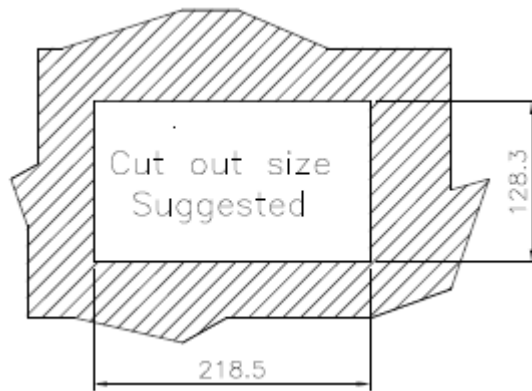
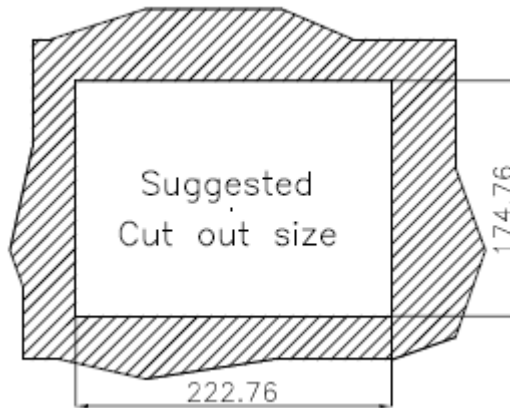
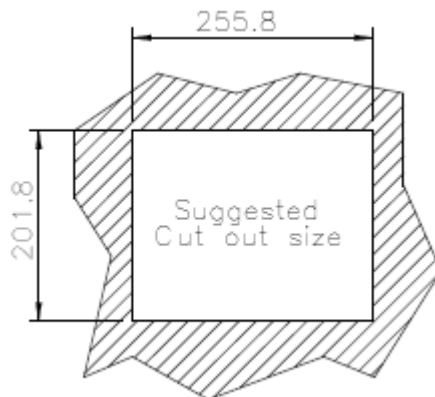
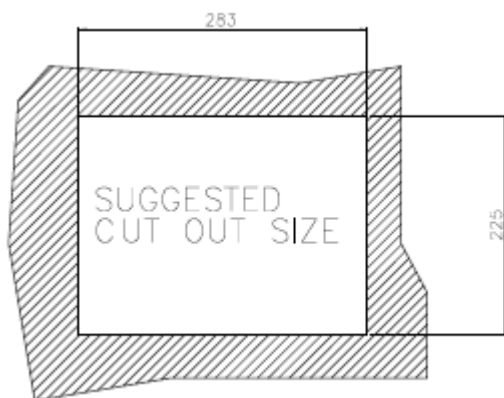

Figure 3-19: AFL-W07A-N26 Panel Opening
Figure 3-20: AFL-08A-N26 Panel Opening
Figure 3-21: AFL-10A-N26 Panel Opening
Figure 3-22: AFL-12A-N26 Panel Opening
- Step 2:** Cut out a section from the panel that corresponds to the rear panel dimensions of the flat panel PC. Take care that the panel section that is cut out is smaller than the overall size of the frame that surrounds the flat panel PC but just large enough for the rear panel of the flat panel PC to fit through (see **Figure 3-19**, **Figure 3-20**, **Figure 3-21** and **Figure 3-22**).